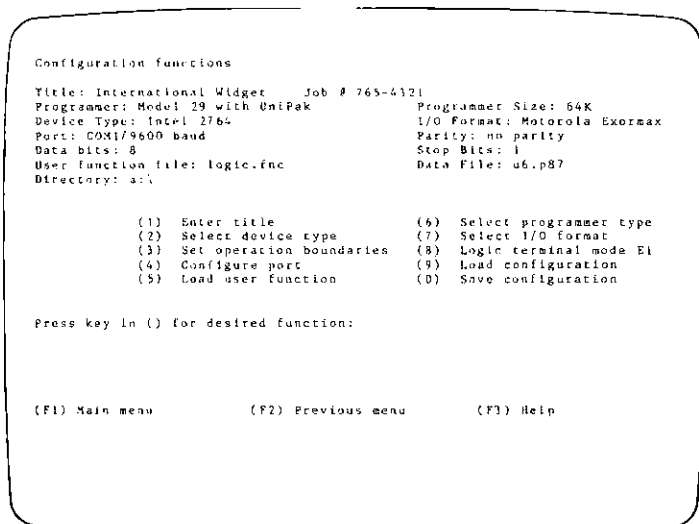

Figure 3-28. Configuration Functions Menu
The options and functions available from this menu let you set all parameters you will need to define a data file configuration and save it for loading at another time, set all data entry parameters (*Set Operation Boundaries* (3)), and configure the computer serial port. Figure 3-28 shows the *Configuration Functions* menu and the 10 options available from it.